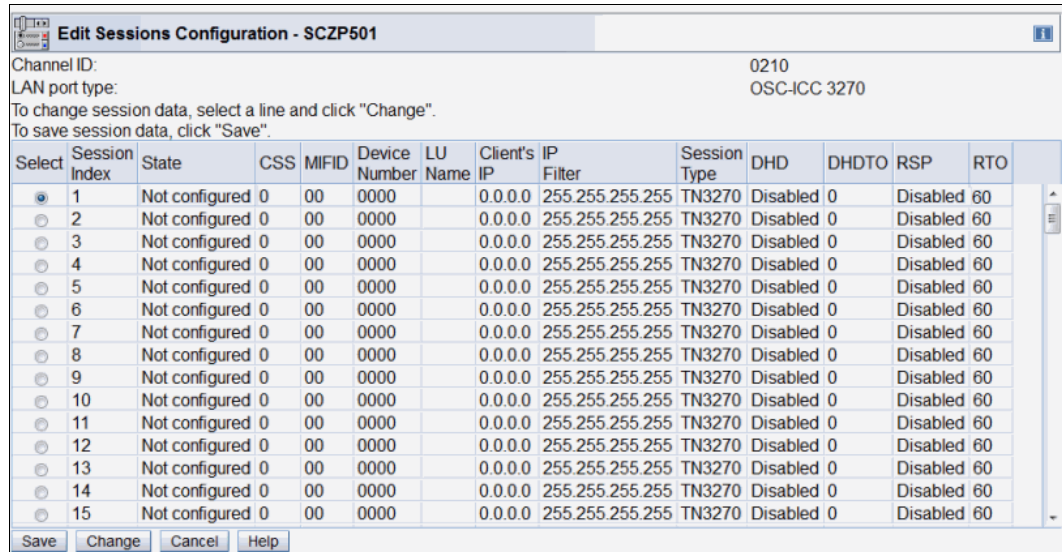

Figure 14-92 OSA Advanced Facilities: Edit Sessions Configuration
- The Edit Sessions Configuration window opens (Figure 14-92). To configure a new session, select a number from the Session Index column and click **Change**.